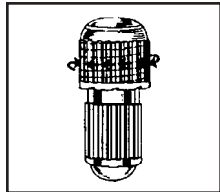

Figure 1
1. To activate the IRM® Caps™, hold vertically, grasp bottom half and **FIRMLY TIGHTEN** the top (see Fig. 1). As top is tightened, you will feel a “snap” as the liquid is released. Continue tightening until you are sure it cannot be seated further.